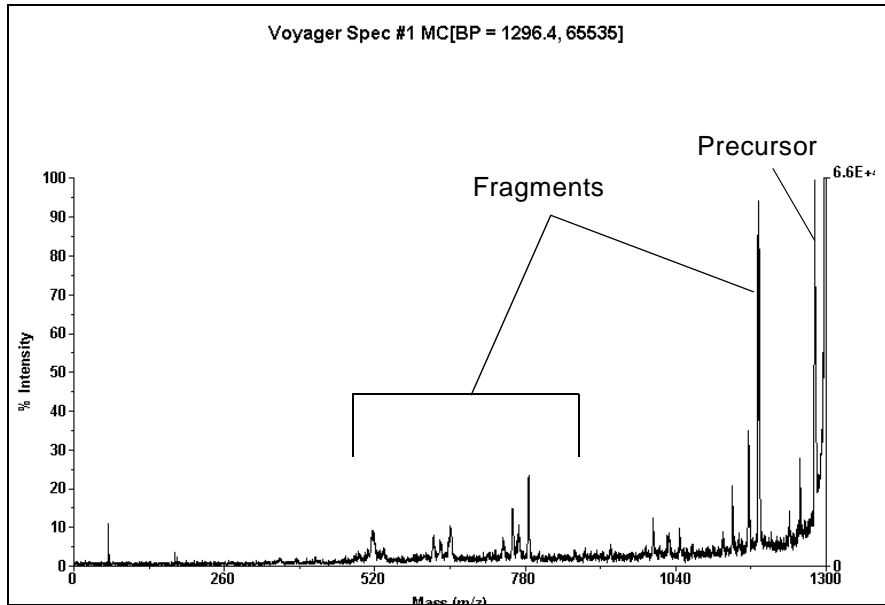

Figure 8-2 Segment Spectrum
6. Examine the spectrum to ensure that fragments are produced (Figure 8-2).
7. If fragments are present and data is acceptable (Figure 8-2), click  in the toolbar to save the segment to the .DAT file. After you save the segment, the Saved check box in the segment list is checked.